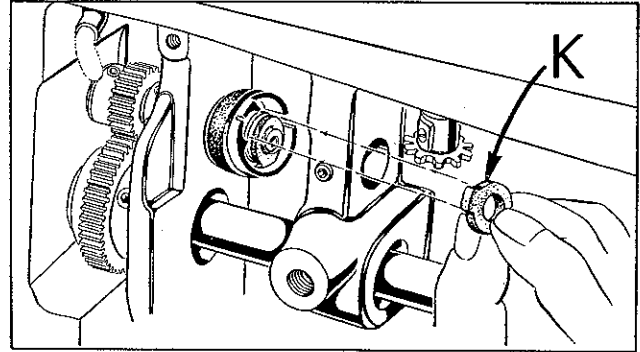
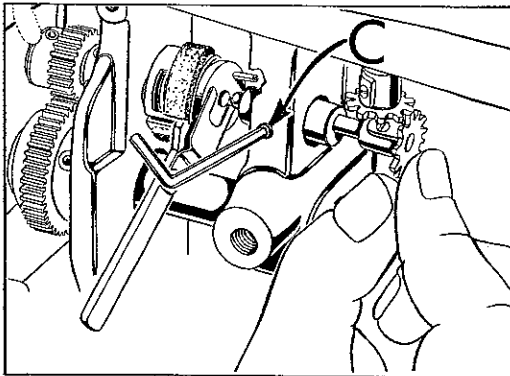

Fig. 23
Fig. 24
3. Position oil supply felt (K, Fig. 23) on hook shaft making certain the felt's projection extends into dovetail of metering cup.
4. Position air seal felt (J) on hook shaft.
5. Insert pump disc (F) into assembly tool No. 21227 BY, with stop pin on the spring side of tool, 180° from handle. Insert disc approximately half way into spring and center in tool (Fig. 24).
7. A clearance cut on the edge of the metering cup, located between the dovetail and the long horizontal slot, has been provided for the pump disc tool and should be facing you (Fig. 24).
9. Press hook oil control shaft bushing (L) to left until control shaft (D) is approximately 1/16 inch away from pump disc (F). Make sure the control shaft pivot pin (E) seats in the depression at the center of the pump disc. Tighten set screw (C, Fig. 24) and withdraw assembly tool. Be sure air seal felt (J) has seated against the pump disc.